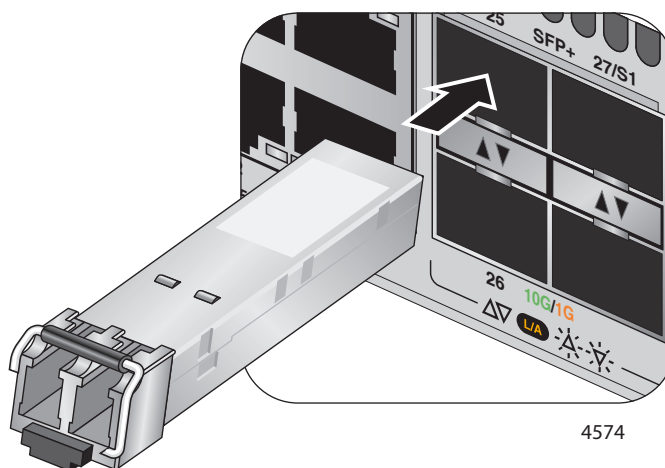

Figure 79. Installing an SFP Transceiver
3. If you are installing the transceiver in a top port, position the transceiver with the Allied Telesis label facing up. If you are installing the transceiver in a bottom port, position the transceiver with the label facing down. Refer to Figure 79.